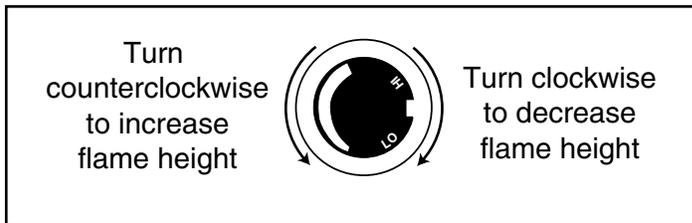

Figure 15 - Flame adjustment knob for SIT Valve.
2. Install the rear log by placing it on the sheet metal shelf at the back of the firebox. (Figure 15) The log should touch the back wall of the firebox and be centered.
For units equipped with 'HI/LO' valves the flame adjustment is accomplished by rotating the 'HI/LO' adjustment knob located near the center of the gas control valve. (Figure 15)